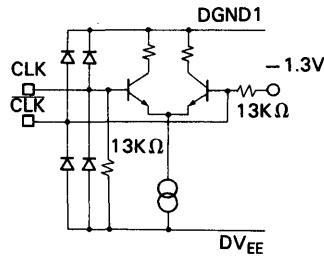

Fig. 2 CLK, CLK input
4. Clock Inputs (CLK, $\overline{\text{CLK}}$) (See Fig. 2.)